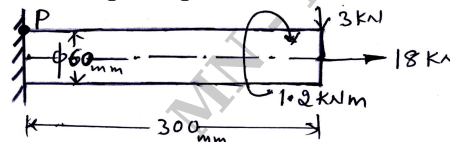

Fig.Q1(c)
- A machine member 60mm diameter is subjected to combined loading as shown in Fig.Q1(c). Determine the maximum principal stress and maximum shear stress at point P.